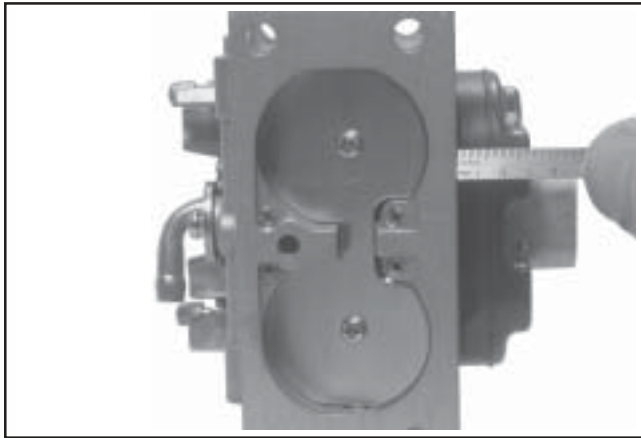

Figure 5-47. Checking Float Height.
8. The correct float height setting is **17 mm (0.669 in.) ± 1.5 mm (0.059 in.)**, measured from the float bottom to the body of the carburetor. See Figure 5-47. Replace the float if the height is different than the specified setting. **Do not** attempt to adjust by bending float tab.